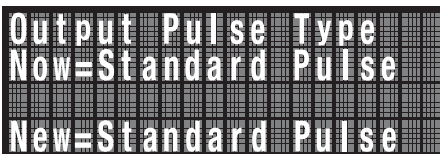

Fig. 6.25
2. Press the Pulse Type key and use the arrow keys to scroll to the waveform type want to use for the primary waveform, then press the Enter key. The available waveform types of the LR-24 are: DC (non-pulsed), Standard pulse and Burst of pulses (see **Figure 6.25**).